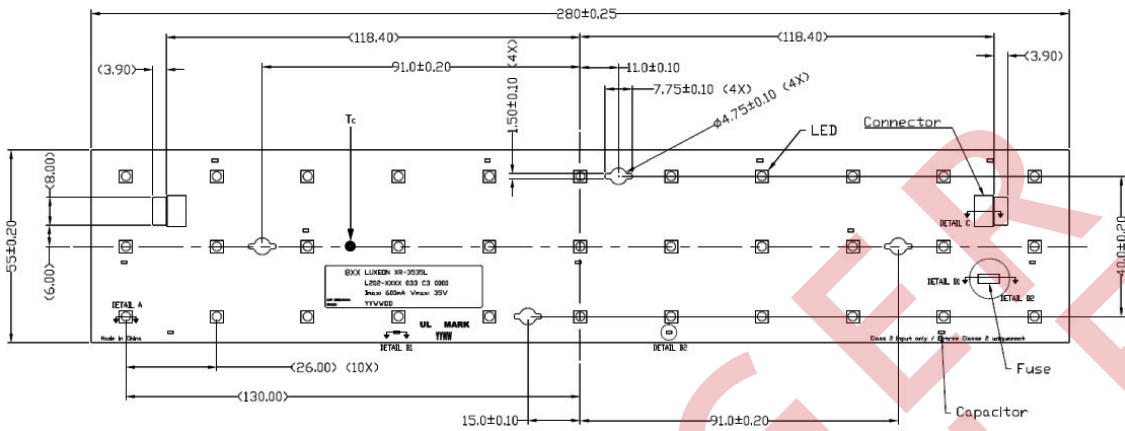

Figure 4: Mechanical dimensions for L202 - xxxx033C30000, outline, screw hole and LED pitch.
- Notes for Figures 4, 5 and 6: